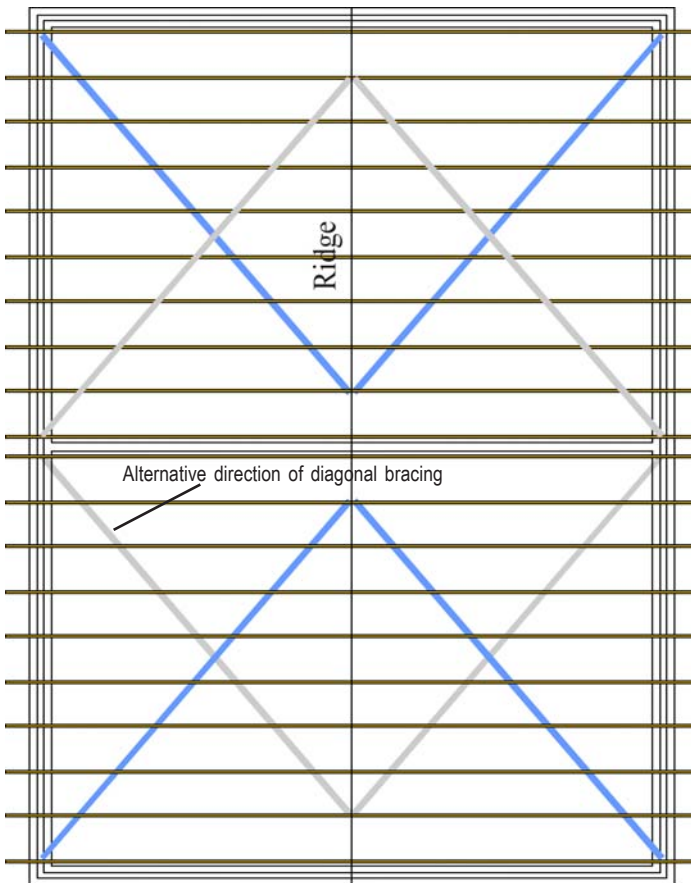

Fig. 5 Plan of rafter diagonal bracing arrangement on a wide fronted roof
- At least 4 rafter diagonal braces (see Fig. 5) are fixed to the underside of rafters at approx. 45°.